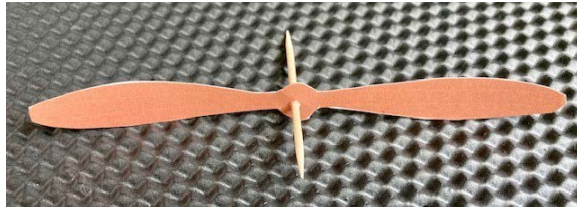

Figure 5. Push the toothpick through the hole in the center of one of the rotor blades.
6. Push a toothpick through the hole in the center of one of the rotor blades. The rotor blade should be about $\frac{3}{4}$ of an inch from the end of the toothpick as shown in *Figure 5*.